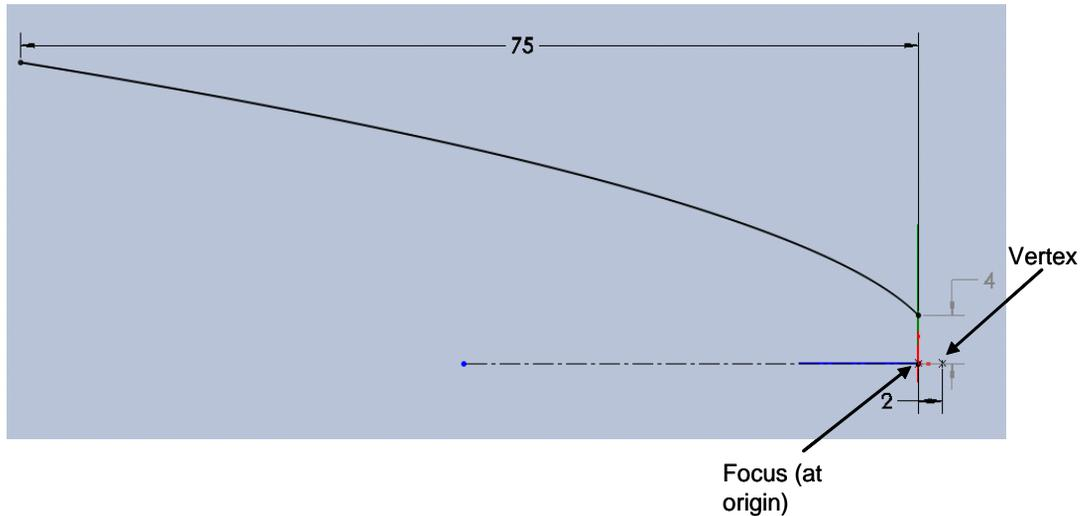

Figure 15 Dimensions of parabolic geometry
To constrain the parabolic geometry for the illumination system, you first want to ensure that the vertex of the parabola is constrained on the optic (Z) axis. The opening at the input of the parabola needs to accept an LED with a base diameter of about 8mm, with the emitting area of the LED positioned at the focal point of the parabola. The total length of the reflector is 75mm. To meet these requirements, you use a pair of relations and two dimensions. The dimensions that fit these requirements are shown in Figure 15.